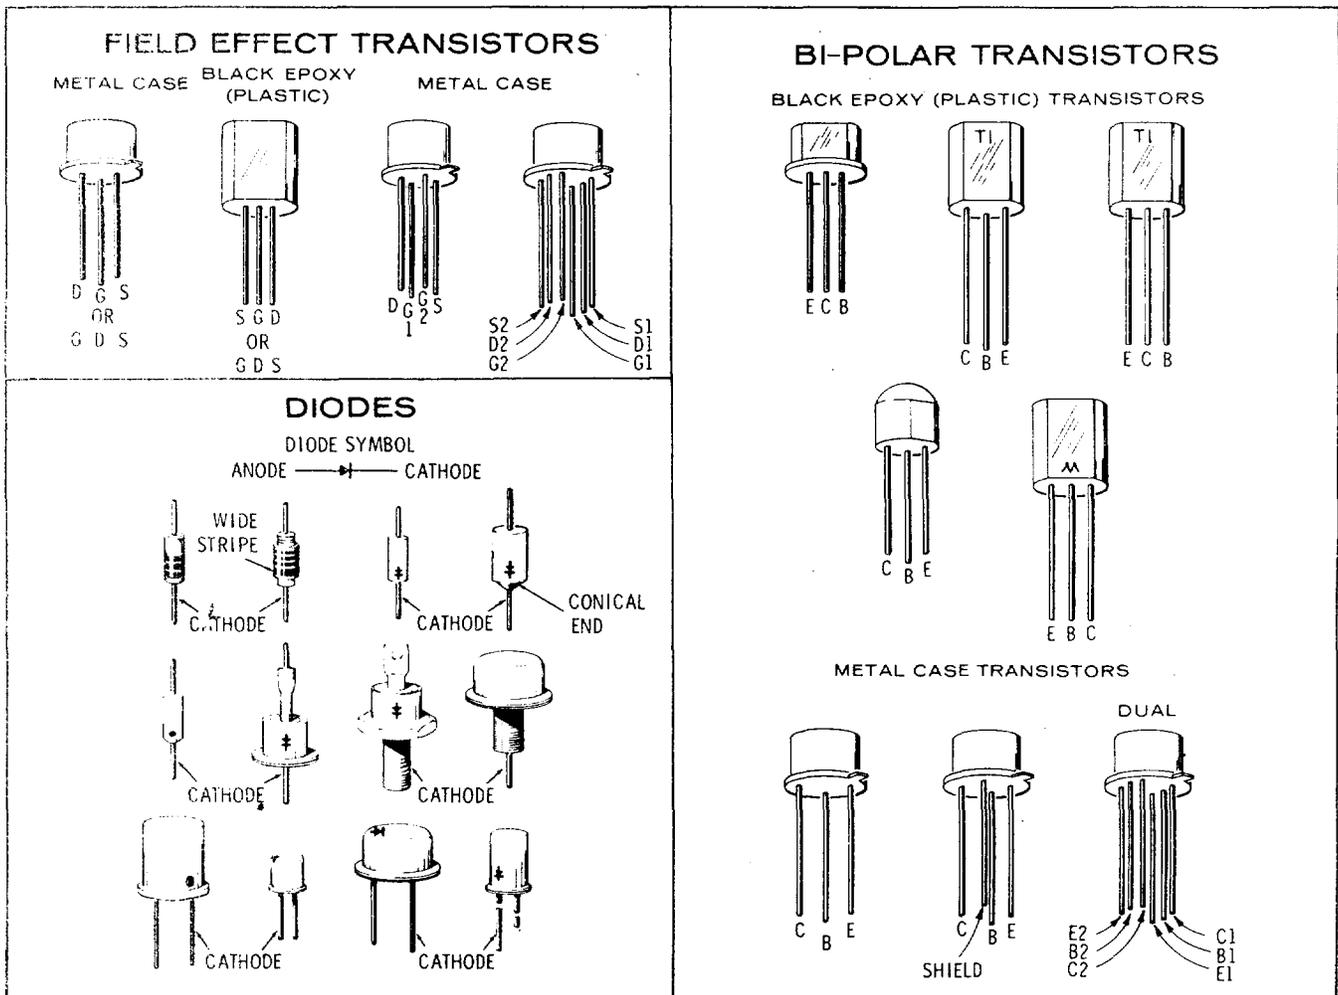

Figure 8-2. Examples of Diode and Transistor Marking Methods
**8-27. Transistor and Diode Markings.** Figure 8-2 illustrates examples of diode and transistor marking methods. In addition, the emitter lead for bipolar transistors is identified on the printed circuit boards.